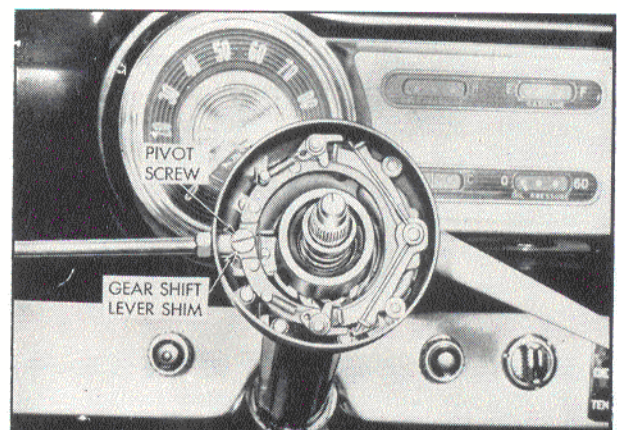

Fig. 5
4. If control ring has excessive up and down movement, add shims Part Number 501301, between pivot screw head and ring assembly (fig. 5). Shims should be added one at a time until they are snug but can still be moved by force when the pivot screw is fully tightened.